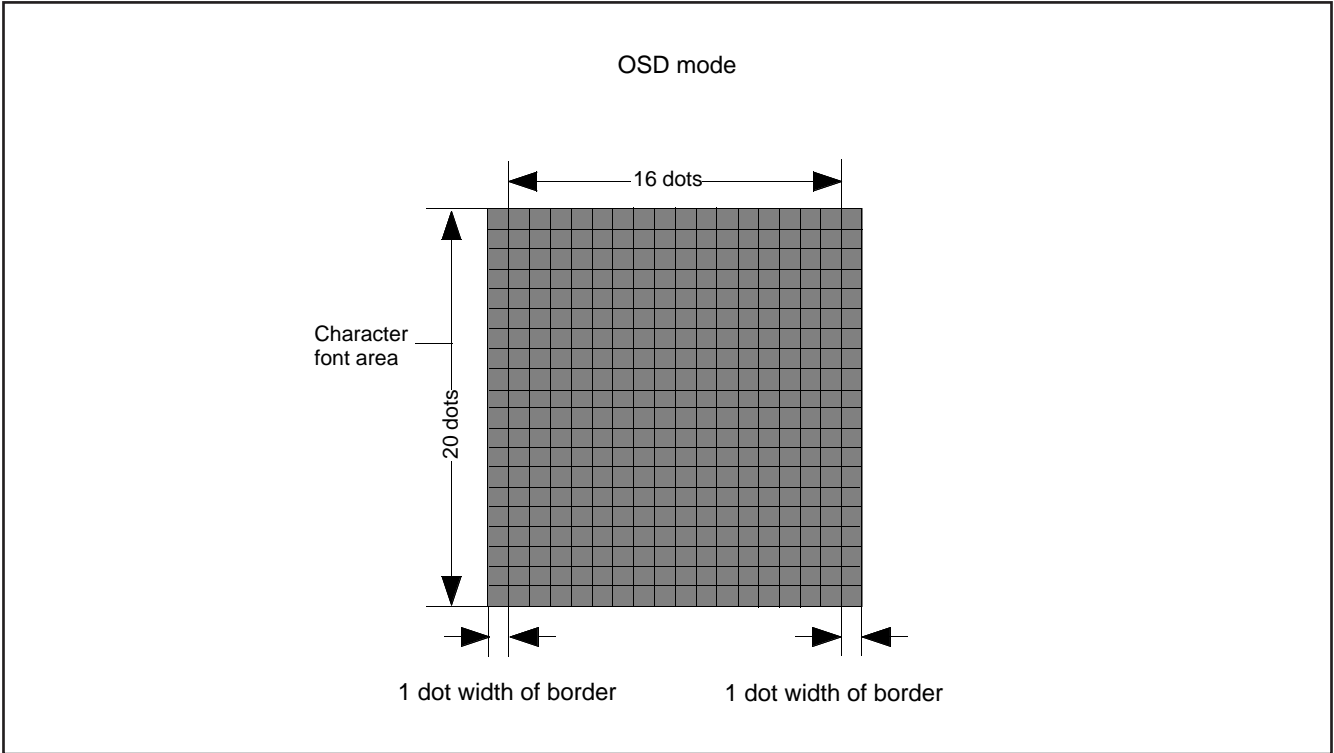

Fig. 12.11.34 Border Area
**Notes 1:** The border dot area is the shaded area as shown in Figure 12.11.34.